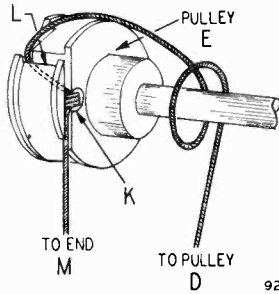

Fig. 19—Drive Cord Replacement—Step No. 3
(161) Rotate the setting discs until pulley E is approximately in the position shown in Fig. 19. Using a thin wooden prod, place cable in slot L with knot in hole at point K of pulley E. Rotate the setting discs a slight amount back and forth. This will provide clearance while getting the cable in the slot. Push the cable well down into slot L.—See Fig. 19.